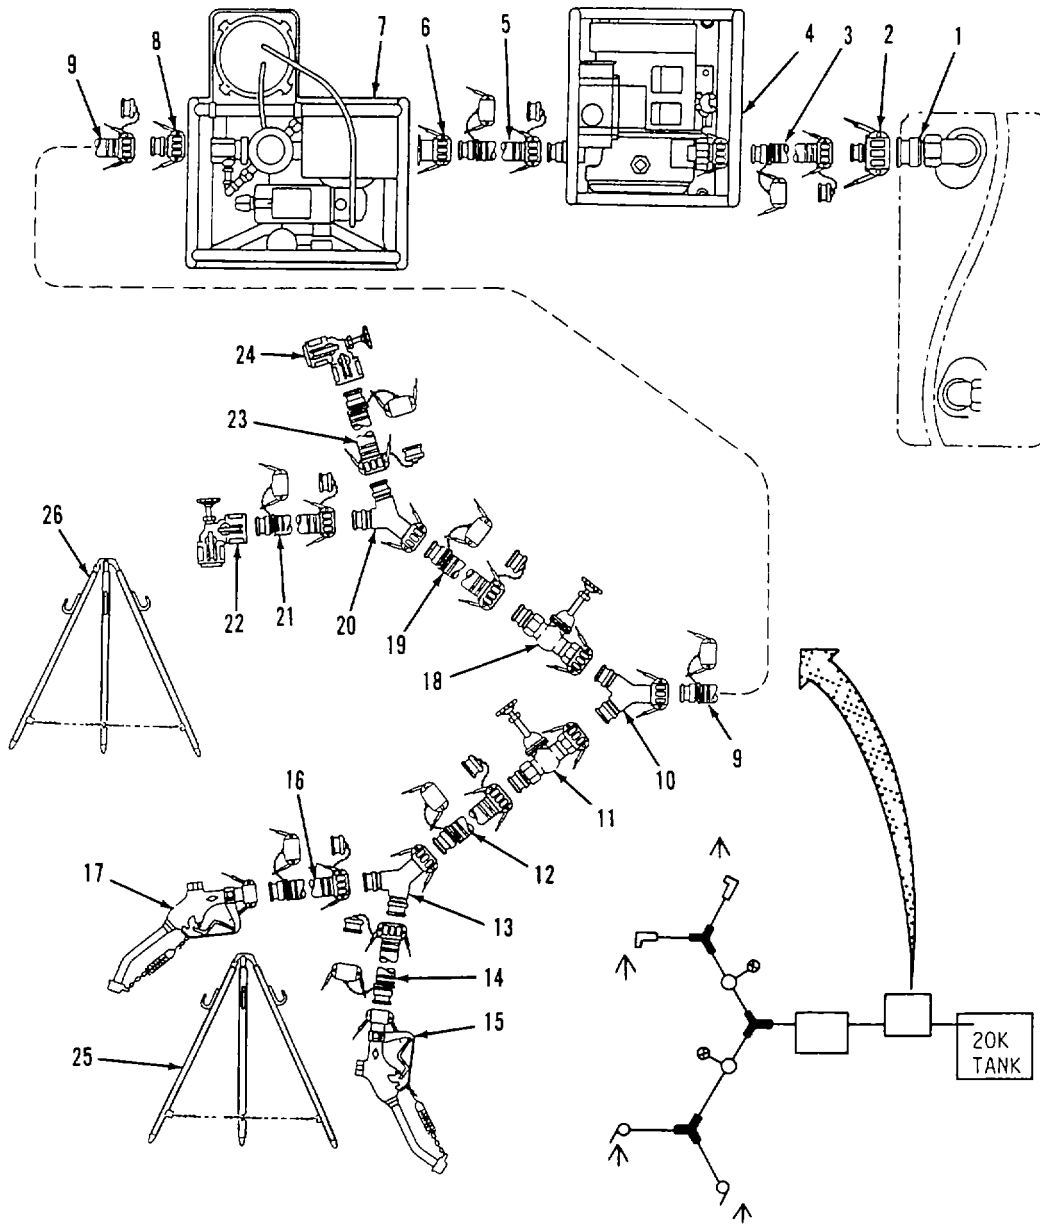

Figure 2-29. Distribution Point Assembly.
m. Assemble Distribution Points. Refer to figure 2-29.